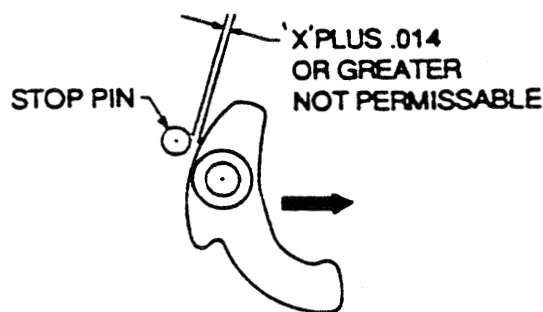

Figure 606. X Value Measurement
- (5) Remove the wire to relax the flyweight. Add .014 in. feeler gauge to your predetermined "X" value. Attempt to pass "X plus .014 in." feeler gauges between flyweight and stop pin. If gauges pass, remove and discard worn cam assembly. See Figure 606.